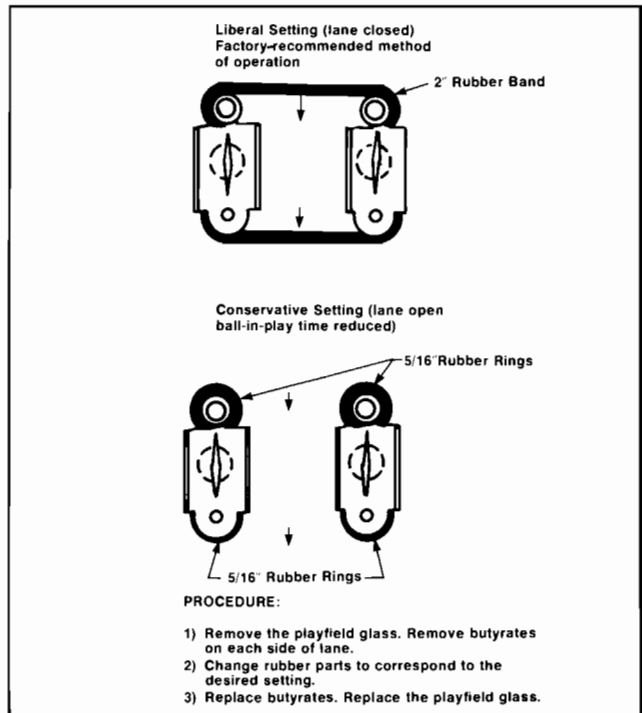

**Figure 6 Locations of Operator Option Switches on Processor PCB**
- Step 4) Locate the switches on the board, as shown in Figure 6.